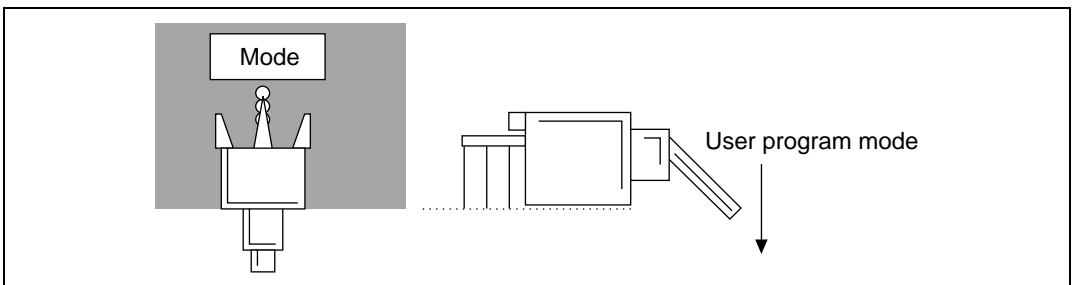

Figure 4.11 Programming Mode Switch Setting
- Set the adapter board's mode switch to user program mode (figure 4.11).